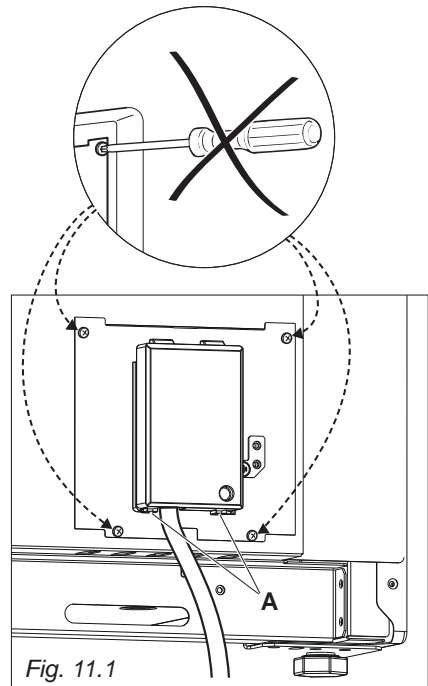

Fig. 11.1
- Unhook the terminal board cover by inserting a screwdriver into the two hooks “A” (fig. 11.1).